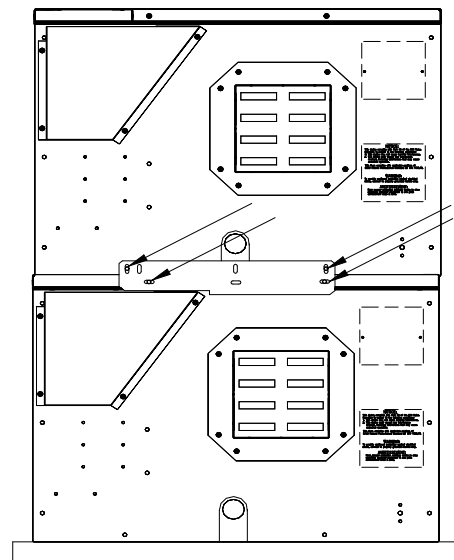

FIGURE 4: Properly Stacked NGC Ovens
- a. Remove the two screws that hold the top panel to the back of the oven (see bottom arrows on Figure 4).
6. Remove the screws from the oven that will be placed on top (see top arrows on Figure 4).